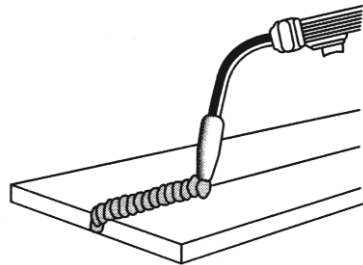

Figure 15. Flat Position
- The **FLAT POSITION** (Figure 15) is the easiest of the welding positions and is most commonly used. It is best if you can weld in the flat position if at all possible as good results are easier to achieve.